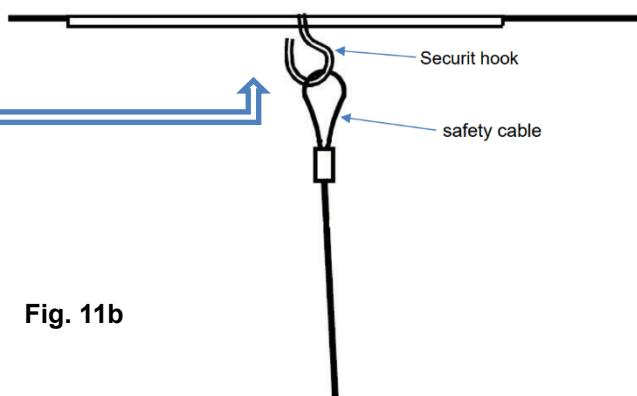

Fig. 11b
7. Pull the metal safety cable on the security hook, tight the safety cable (Fig.11a & Fig.11b)